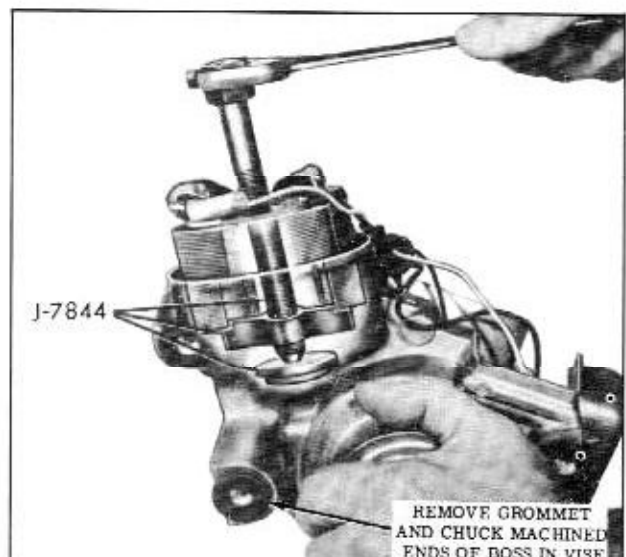

Fig. 13-126 Removing Field Coils
6. Remove field coil from housing using Tool J-7844 as shown in Fig. 13-126.